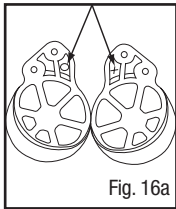

Fig. 16a
- Inspect the black plastic earmuff mounts and locate the “X” and “O” molded into the plastic. There is a left side and right side mount (earmuff). As worn, the mount with the “X” on it should be on the right side of the headgear and the mount marked with an “O” should be on the left side (i.e., “X” on the right, “O” on the left). Fig. 16a depicts the location of the “X” and “O” markings on the mount.